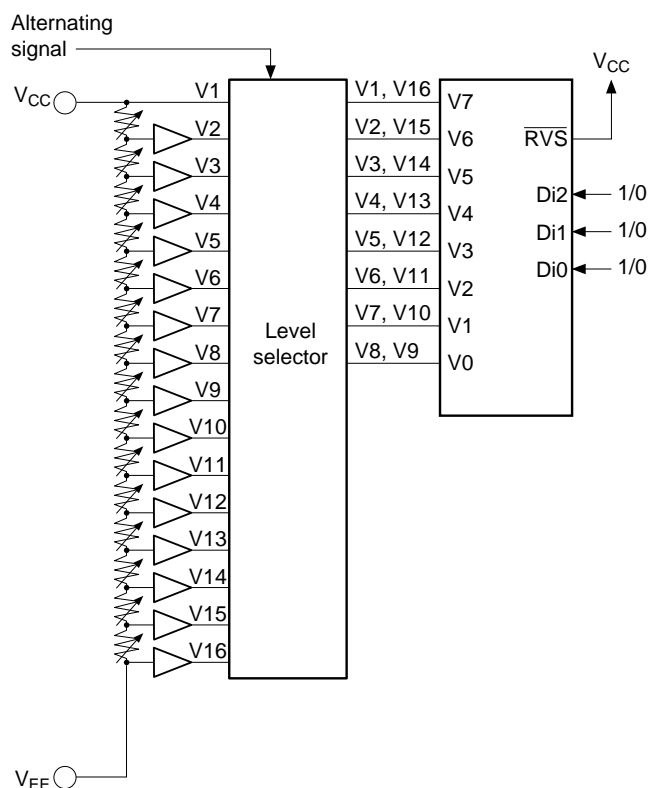
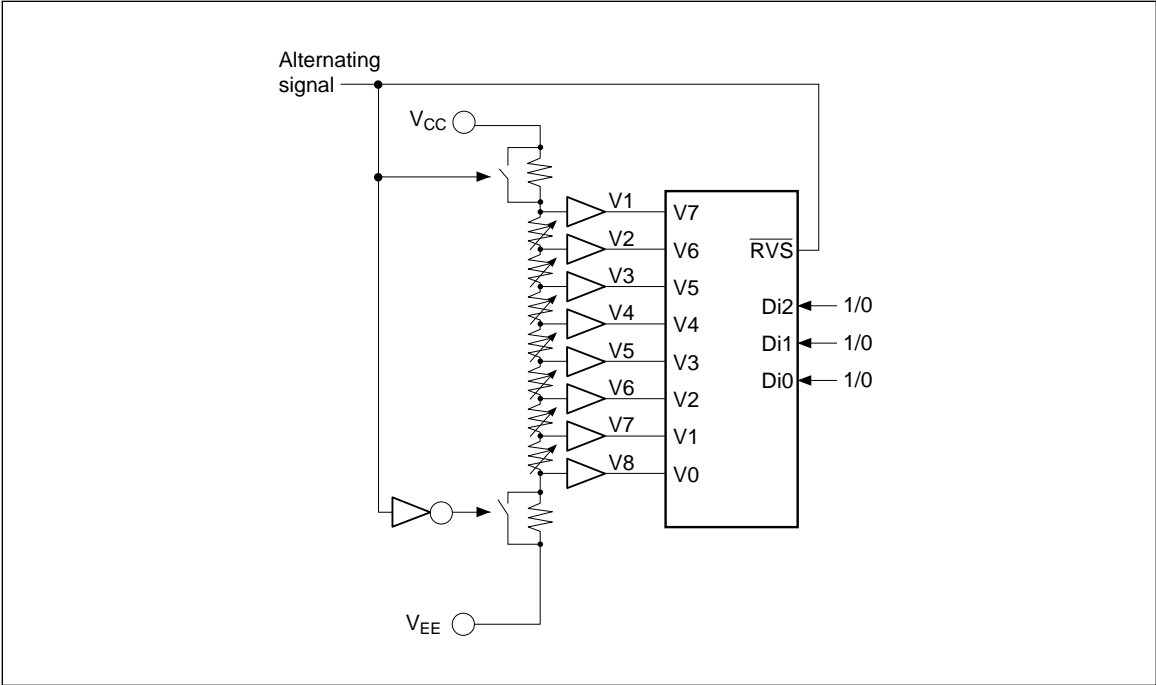
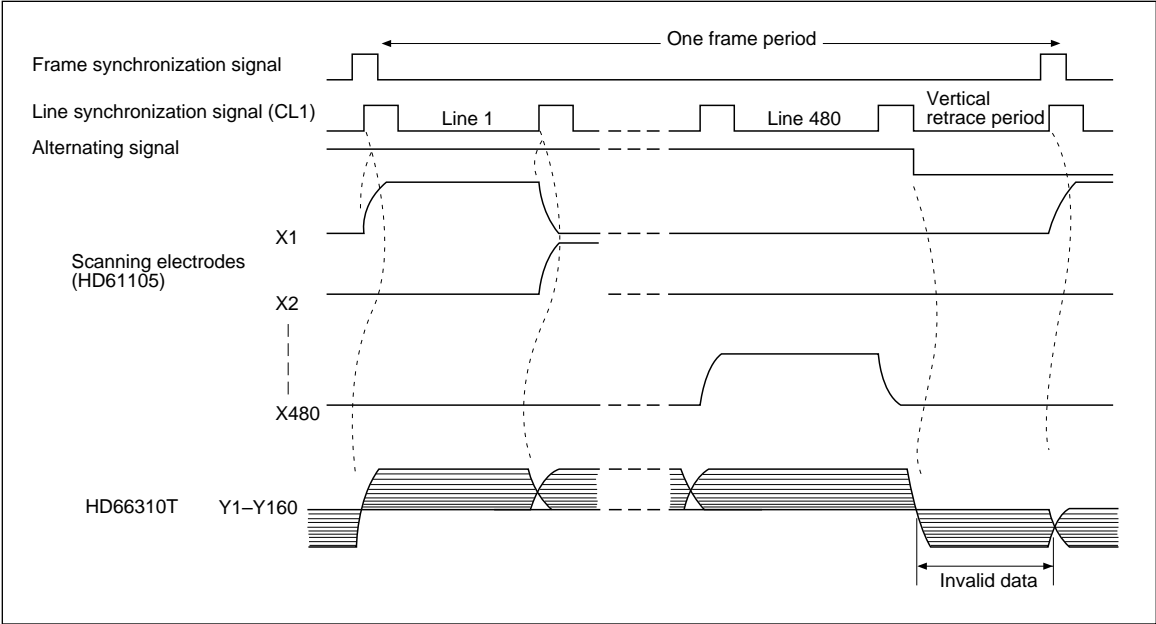

Figure 8 External Power Supply Example 1
Figure 9 External Power Supply Example 2
Figure 12 Vertical Retrace Period
Although the HD66310 has eight LCD driving voltage input levels, it can output 16 driving voltage levels using the level selector shown in figure 8, since the transfer gates of the output circuit are produced by the CMOS structure.
Figures 8 and 9 show the external power supply circuit when displaying 512 colors in the Triad
The circuit shown in figure 8 is the basic one used when displaying 512 colors in the Triad arrangement. However, the HD66310 can dispense with the level selector, as shown in figure 9, using the internal \overline{RVS} (output reverse) pin. See table 1 for detailed \overline{RVS} functions.
When using the RVS pins to simplify the power source, as shown in figures 9 and 10, it is recommended to add a vertical retrace period, (a scanning period in which no scan electrode is selected) at the end of a frame scanning period, as shown in figure 12, for the following two reasons.
11. However, the power supply lines immediately reverses polarity after a transition of the $\overline{\text{RVS}}$ signal, as shown in figures 9 and 10. Therefore, the HD66310 outputs invalid data during the last CL1 of a frame period.
- In the power supply circuits shown in figures 9 and 10, voltage temporarily becomes unstable just after the $\overline{\text{RVS}}$ transition, causing the LCD display to become jumbled.